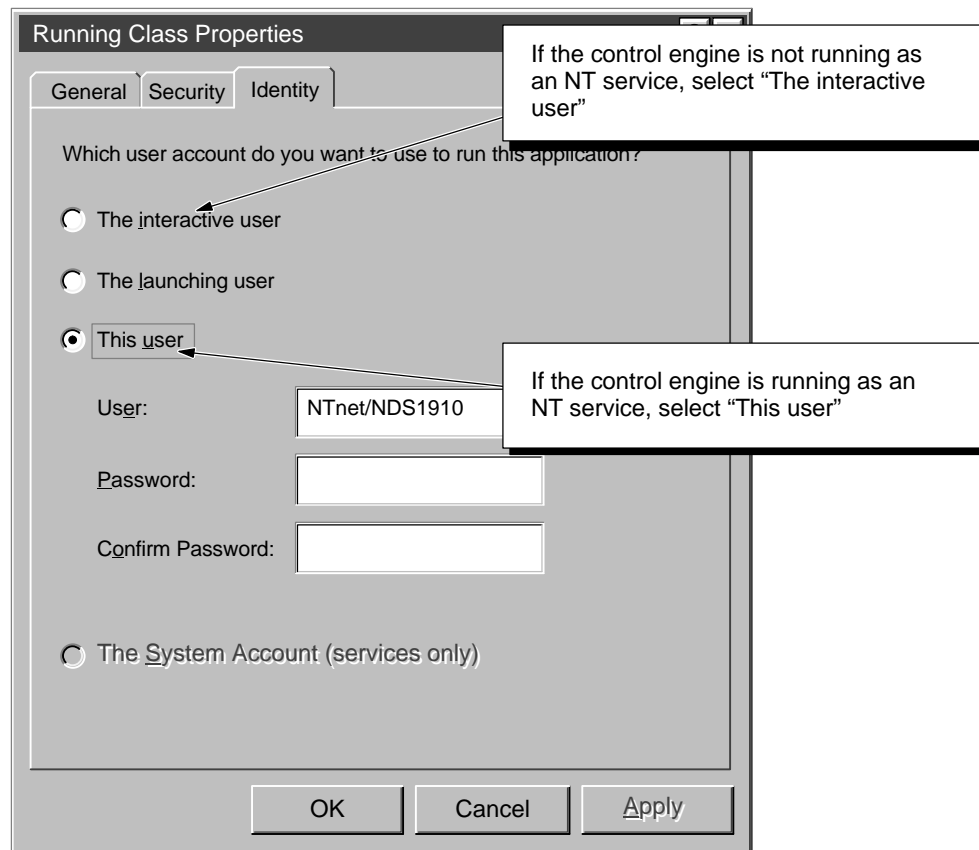

Figure E-12 Configuring the DCOM Identity Permissions for the Server
1. Click on the “Identity” tab and select the user to be allowed access to the server. See Figure E-12.